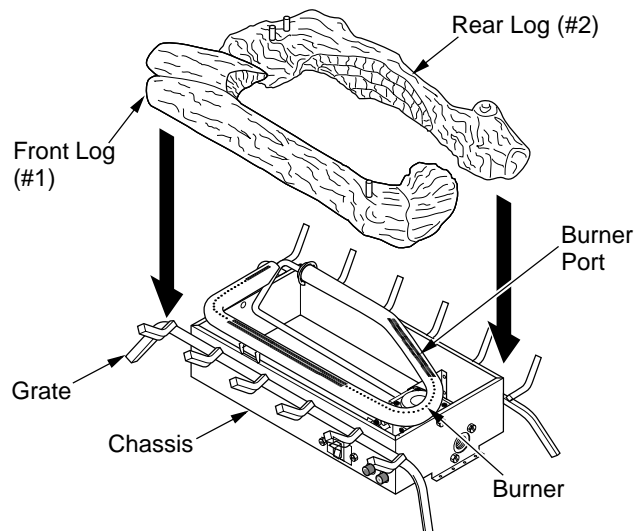

Figure 18 - Installing Front (#1) and Rear (#2) Logs
1. Place front log (#1) and rear log (#2) on grate to fit as illustrated in Figure 18.